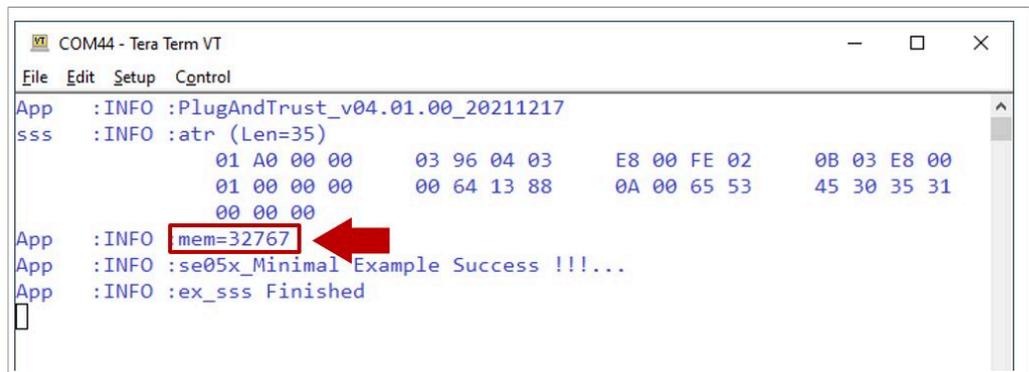

Figure 47. TeraTerm logs - se05x_minimal project example
- The project example should now be running into your LPC55S69. If it is running successfully, the TeraTerm logs should indicate the available memory in the secure element (in this case, 20820), as can be seen in Figure 47.